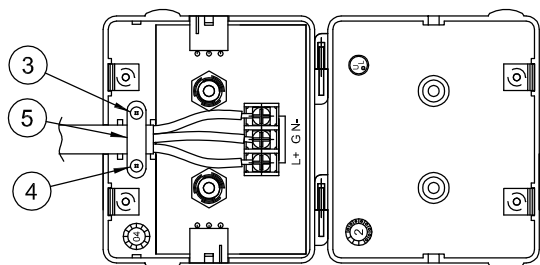

FIG. 4
8. Re-attach Screw (3),(4) and Clamp (5) over Supply Wires. (See fig. 4)